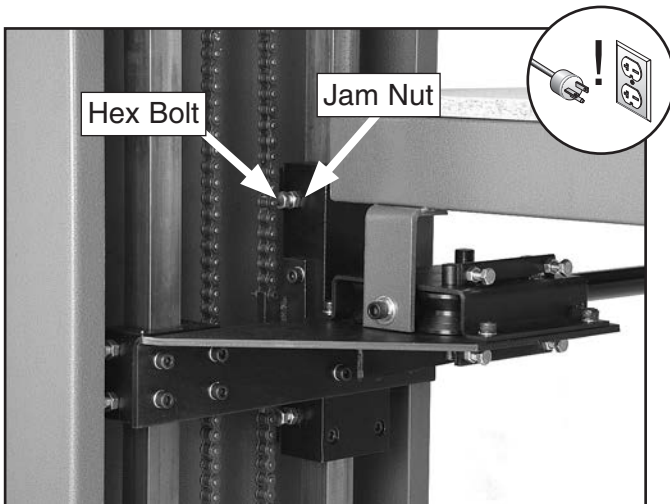

Figure 49. Wear pin adjustment.
2. Loosen the jam nut shown in (Figure 49).